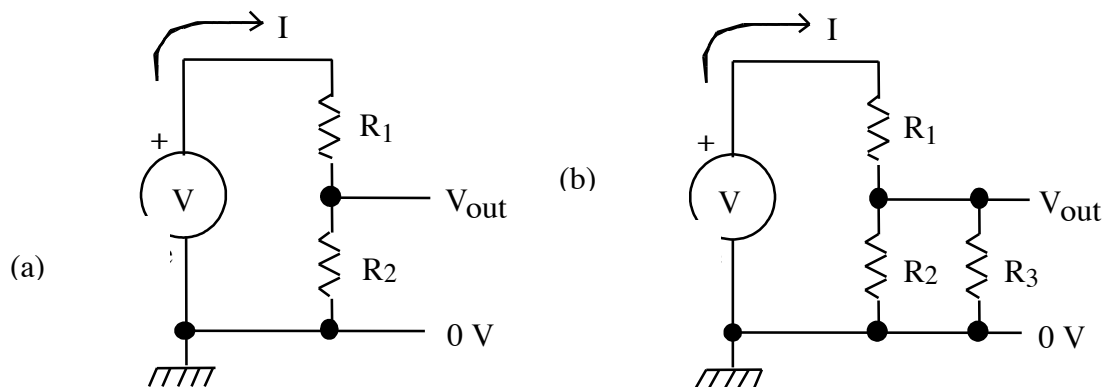

Figure 1) Voltage Dividers
Question 1	<p>Resistive Voltage Dividers (ideal power supply)</p> <p>An ideal voltage source (no internal resistance) drives current around the loop of resistors shown in Figure 1 (a).</p> <ol style="list-style-type: none"> <li>Derive a formula for the current, <math>I</math>, and the output voltage, <math>V_{out}</math>.</li> <li>What is <math>V_{out}</math> if <math>V = 10\text{ V}</math>, <math>R_1 = 2\text{ k}\Omega</math>, and <math>R_2 = 1\text{ k}\Omega</math> ?</li> <li>Calculate the voltage <math>V_{out}</math> for the modified circuit shown in Figure 1(b) with <math>R_3 = 10\text{ k}\Omega</math> and the other components unchanged.</li> </ol>
Question 2	<p>Resistive Voltage Dividers (non-ideal power supply)</p> <p>A non-ideal voltage source has an output impedance (resistance). First consider a supply with an output impedance <math>500\ \Omega</math>.</p> <ol style="list-style-type: none"> <li>Draw a modified circuit diagram of Figure 1(a) to model the non-ideal voltage source as an ideal source with a series resistor.</li> <li>Derive a formula for the current, <math>I</math>, and the output voltage, <math>V_{out}</math> of the circuit you drew for Part (a) of Question 2.</li> <li>What is <math>V_{out}</math> if <math>V = 10\text{ V}</math>, <math>R_1 = 2\text{ k}\Omega</math>, and <math>R_2 = 1\text{ k}\Omega</math> ?</li> <li>An additional load is connected between <math>V_{out}</math> and ground in the form of the resistor <math>R_3</math> as shown in Figure 1(b). Calculate the voltage <math>V_{out}</math> for this circuit (with the non-ideal power supply) and with <math>R_3 = 10\text{ k}\Omega</math>.</li> </ol>
Step 4	<p>Fixed-value voltage divider - 1kΩ</p> <p>Components (resistors, capacitors, transistors, etc.) are available from the community stock. Take what components you need for the experiment.</p> <ol style="list-style-type: none"> <li>Build a voltage divider similar to the one shown in Fig. 1(a) using resistors of around 1 kΩ. Draw a diagram of the circuit in your lab book. Make sure to label the resistors and record all measured component values and voltages.</li> <li>Measure each resistor with your DMM before inserting it into your circuit and record the value. Why should you measure component values before placing them in the circuit?</li> <li>Predict the output voltage you should measure based on your input voltage and resistance measurements. Include your calculations and numerical predictions in your lab book.</li> <li>Now, apply a DC voltage to the input and measure the output voltage of your divider, first using first your DMM and second using your oscilloscope with the minigrabbers. Record your measurements. (Do not have the DMM and the oscilloscope connected at</li> </ol>